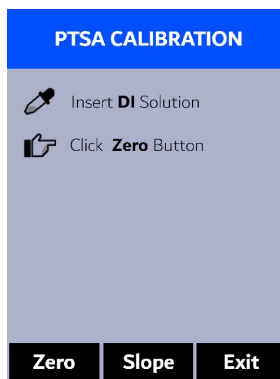

Figure 13.
5. Press **OK** to launch the **PTSA CALIBRATION** screen (Figure 13).